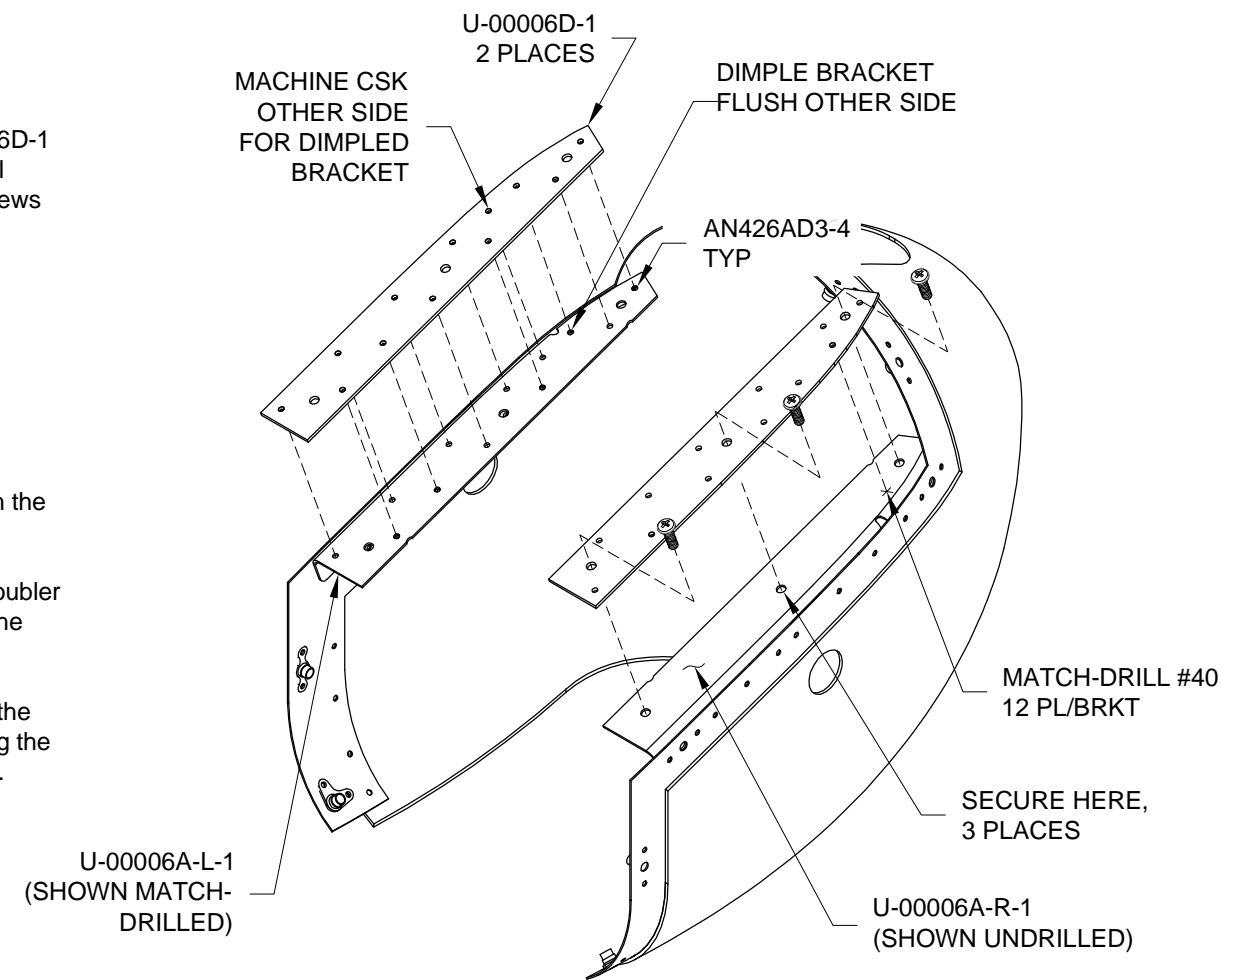

FIGURE 3: INSTALLING THE DOUBLER PLATES
Step 4: Secure the U-00006D-1 Doubler Plates to the wheel fairing brackets with #8 screws and nuts as shown for the U-00006A-R-1 in Figure 3.
Rivet the doubler plates to the wheel fairing brackets using the rivets called out in Figure 3.